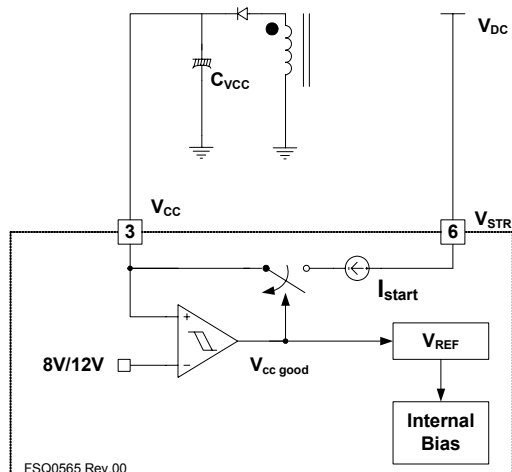

Figure 23. Startup Circuit
1. Startup: At startup, an internal high-voltage current source supplies the internal bias and charges the external capacitor (C_a) connected to the V_{CC} pin, as illustrated in Figure 23. When V_{CC} reaches 12V, the power switch begins switching and the internal high-voltage current source is disabled. The power switch continues its normal switching operation and the power is supplied from the auxiliary transformer winding unless V_{CC} goes below the stop voltage of 8V.